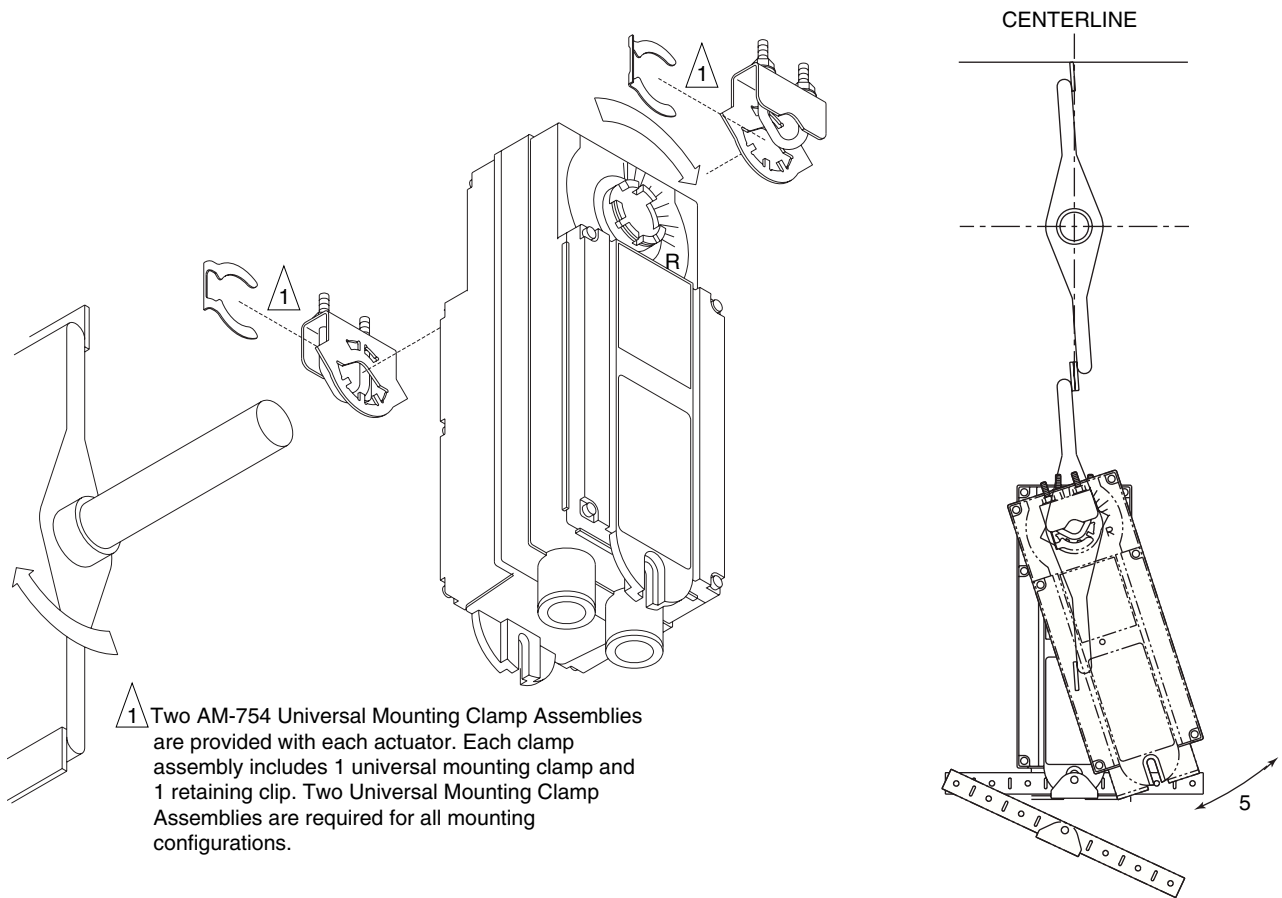
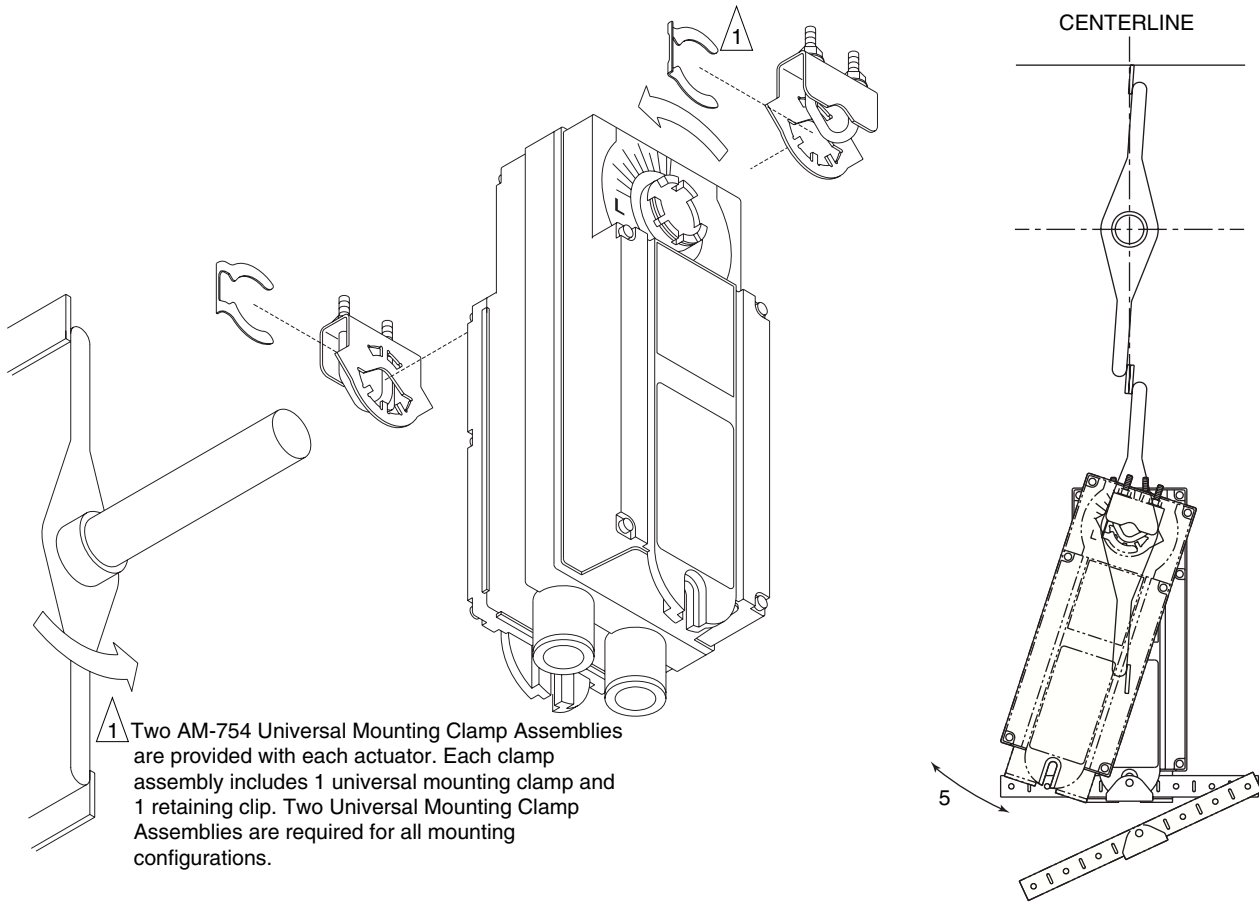

Figure-5 Long Damper Shaft Mounting with Clockwise Spring Return for Normally Closed Damper.
Figure-6 Long Damper Shaft Mounting with Counterclockwise Spring Return for Normally Closed Damper.
- If the damper shaft rotates clockwise to the closed position, mount the actuator with the side marked “R” facing the installer. See Figure-5.
- If the damper shaft rotates counterclockwise to the closed position, mount the actuator with the side marked “L” facing the installer. See Figure-6.
6. Attach one side of the anti-rotation bracket to the mounting surface with one of the screws provided. Leave the screw loose so that the bracket can be rotated. See Figure-5 for clockwise or Figure-6 for counterclockwise spring return.
7. Pivot the anti-rotation bracket away from the actuator. See Figure-5 or Figure-6.
8. Loosen the universal mounting clamps, making sure not to move the damper shaft. Rotate the actuator approximately 5° in the direction which would open the damper. See Figure-5 or Figure-6.
10. Manually rotate the actuator toward the full-closed position to apply pressure to the damper seals. See Figure-5 or Figure-6.
11. Pivot the anti-rotation bracket into place and secure the other side of the bracket onto the mounting surface with the other screw provided with the actuator. See Figure-5 or Figure-6.
12. Verify that the damper is in its full-closed position and actuator at 90° (perpendicular) to the damper shaft. See Figure-5 or Figure-6.
- If the damper shaft rotates clockwise to the closed position, mount the actuator with the side marked "R" facing the installer. See Figure-5.
- If the damper shaft rotates counterclockwise to the closed position, mount the actuator with the side marked "L" facing the installer. See Figure-6.
9. Attach one side of the anti-rotation bracket to the mounting surface with one of the screws provided. Leave the screw loose so that the bracket can be rotated. See Figure-5 for clockwise or Figure-6 for counterclockwise spring return.
10. Pivot the anti-rotation bracket away from the actuator. See Figure-5 or Figure-6.
11. Loosen the universal mounting clamps, making sure not to move the damper shaft. Rotate the actuator approximately 5° in the direction which would open the damper. See Figure-5 or Figure-6.
13. Manually rotate the actuator toward the full-closed position to apply pressure to the damper seals. See Figure-5 or Figure-6.
14. Pivot the anti-rotation bracket into place and secure the other side of the bracket onto the mounting surface using the other screw provided with the actuator. See Figure-5 or Figure-6.
15. Verify that the damper is in its full-closed position and actuator at 90° (perpendicular) to the damper shaft. See Figure-5 or Figure-6.